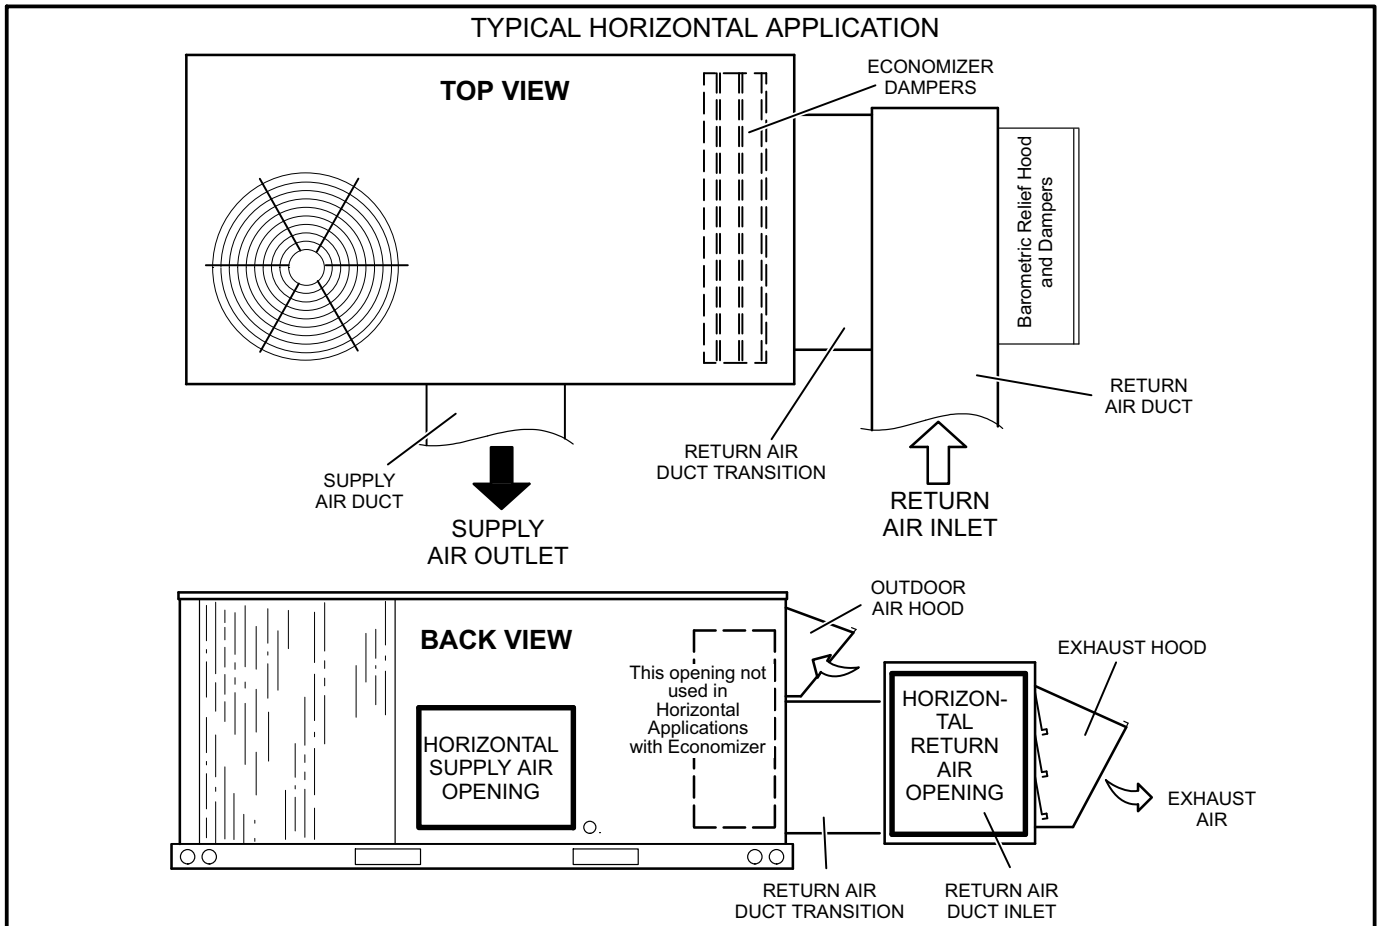

FIGURE 13
- 5- Install the field-fabricated return air duct transition and duct inlet on the unit end. See figure 13. Support the transition and duct inlet as needed.